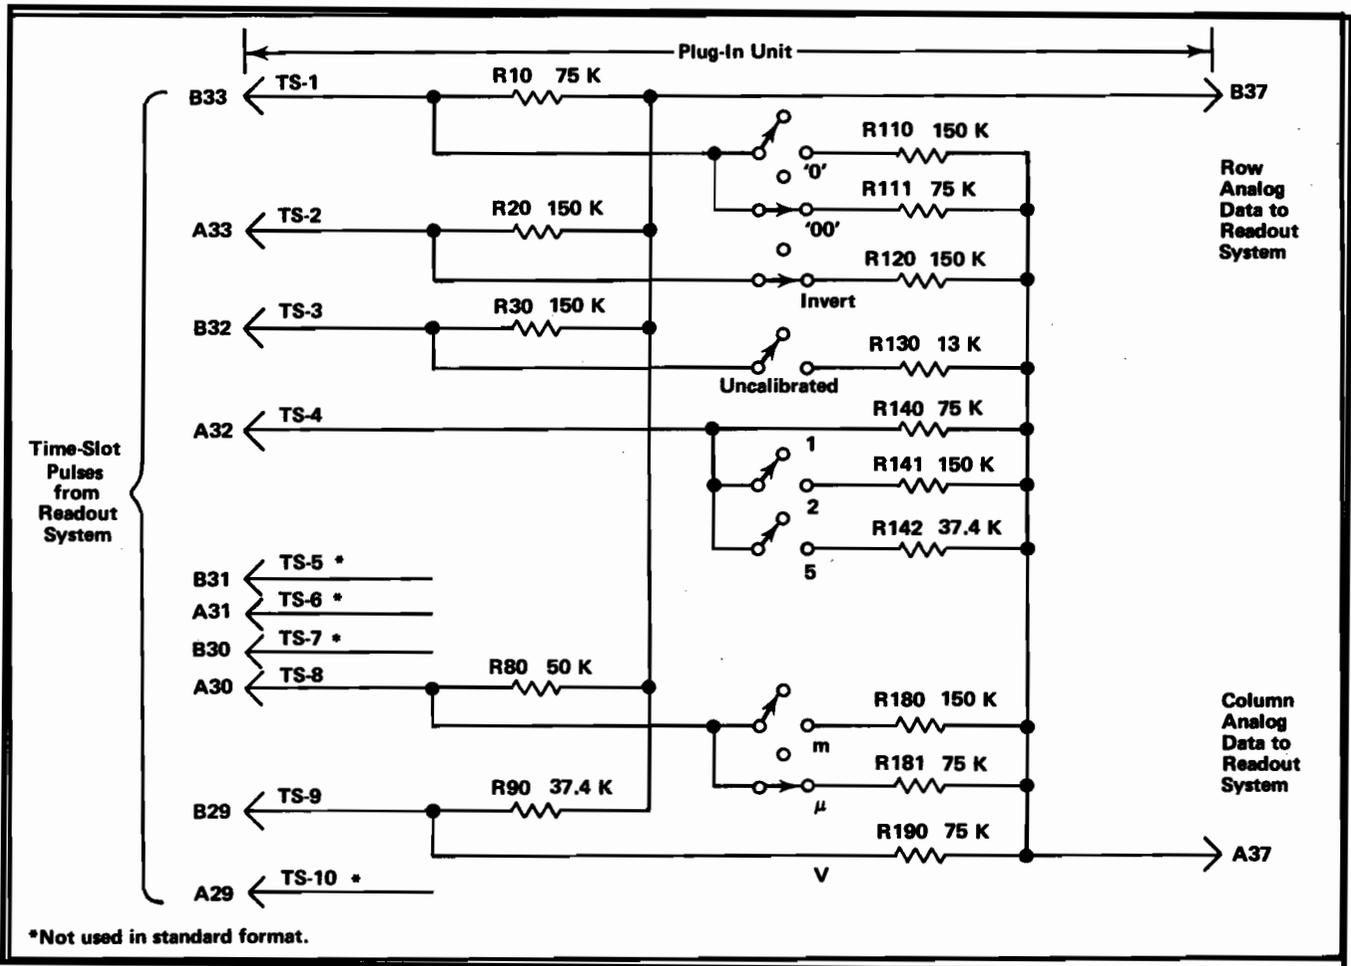

Fig. 3-38. Typical encoding scheme for voltage-sensing plug-in unit. Coding shown for deflection factor of 100 microvolts.
Data is conveyed from the plug-in unit to the Readout System in the form of an analog code having up to 11 current levels (from zero to one milliamperere in 100 microampere steps). The characters which can be selected by the encoded data are shown on the Character Selection Matrix (see Fig. 3-31). Each character requires two currents to define it; these currents are identified as the column current and the row current which correspond to the column and row of the matrix. The column and row data is encoded by resistive programming in the plug-in units. Fig. 3-38 shows a typical encoding scheme for a voltage-sensing amplifier plug-in unit. Notice that the 10 time-slot (TS)
For example, in Fig. 3-38, resistors R10 through R90 control the row analog data which is connected back to the Readout System. These resistors are of fixed value and define the format in which the information will be presented by the Readout System. Fig. 3-39A shows an idealized output current waveform of row analog data which results from the 10 time-slot pulses. Each of the steps of current shown in these waveforms corresponds to 100 microamperes of current. The row numbers on the left-hand side of the waveform correspond to the rows in the Character Selection Matrix shown in Fig. 3-31. The row analog data is connected back to the Readout System via terminal B37 of the plug-in interface.
The Column analog data is defined by resistors R110 through R190. The program resistors are connected to the time-slot lines by switch closures to encode the desired data. The data as encoded by the circuit shown in Fig. 3-38 indicates a 100 microvolt sensitivity with the display inverted and calibrated vertical deflection factors. This results in the idealized output current waveforms shown in Fig. 3-39B at the column analog data output, terminal A37 of the plug-in interface. Resistor R111, connected between time-slot 1 and the column analog data output encodes two units of current during time-slot 1. Referring to the Character Selection Matrix, two units of column current along with the two units of row current encoded by R10 (row 3) indicates that two zeros should be added to the display. Resistor R120 adds one unit of column current during time-slot 2 and along with the one unit of current from the row output, the Readout System is instructed to add an invert arrow to the display. R130 is not connected to the time-slot 3 line since the vertical deflection factors are calibrated. Therefore, there is no column current output during this time-slot and there is no display on the CRT (see Display-Skip Generator for further information). During time-slot 4, two units of column current are encoded by R140. There is no row current encoded during this time-slot and this results in the numeral 1 being displayed on the CRT. Neither row nor column analog data is encoded during time-slots 5, 6 and 7 as defined by the Standard Readout Format. During time-slot 8, two units of column current and three units of row current are encoded by resistors R181 and R80 respectively. This addresses the μ prefix in the Character Selection Matrix. The final data output is provided from time-slot 9 by R190 connected to the column output and R90 to the row output. These resistors encode three units of column current and four units of row current to cause a V (volts) to be displayed. Time-slot 10 is not encoded in accordance with the Standard Readout Format. The resultant CRT readout will be $\downarrow 100 \mu$ V.
connectors of vertical plug-in units. A special coding ring around the input connector of the plug-in unit senses the attenuation ratio of the probe (with readout-coded probes only). The probe contains a resistor which results in additional column current. For example, if a 10X attenuator probe is connected to a plug-in with the coding for 100 microvolts as shown in Fig. 3-38, an additional unit of current is added to the column analog data during time-slot 1. Since two units of current were encoded by R111 (see Fig. 3-38), this additional current results in a total of three units of column analog current during this time-slot. Referring to the Character Selection Matrix, three units of column current along with the two units of row current encoded by R10 indicates that the prefix should be reduced. Since this instruction occurs in the same time-slot which previously indicated that two zeros should be added to the display and only one instruction can be encoded during a time-slot, the zeros do not appear in the display. The CRT readout will now be reduced to 1 mV (readout program produced by plug-in same as for previous example).
Finally, memory C is interrogated during time-slot 8 to obtain information on whether the prefix should be reduced or left at the value which was encoded. If data has been encoded which calls for a reduction in prefix, a negative-going output level is produced at pin 7. This negative level subtracts one unit of column current from the data at the input to the Column Decoder stage. Notice on the Character Selection Matrix of Fig. 3-31 that a reduction of one column when row 4 is programmed results in a one unit reduction of the prefix. For example, with the 100 μ V program shown in Fig. 3-38, if the data received from the plug-in called for a reduction in prefix the CRT readout would be changed to 1 mV (zeros deleted by program; see Encoding the Data).